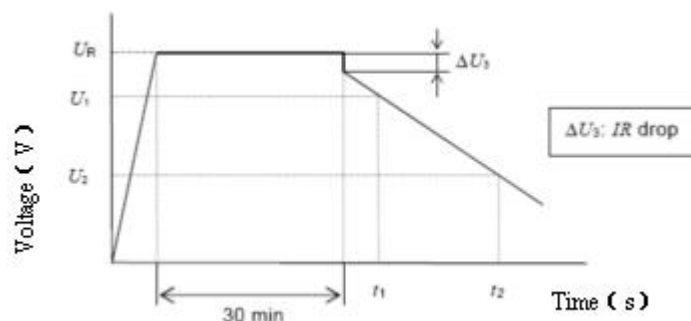

Figure 2 – Voltage characteristic between capacitor terminals
- Unless otherwise specified in the individual standards, measure the time t_1 and t_2 where the voltage between capacitor terminals at the time of discharge reduces from U_1 to U_2 as shown in Figure 2, and calculate the capacitance value by the following formula